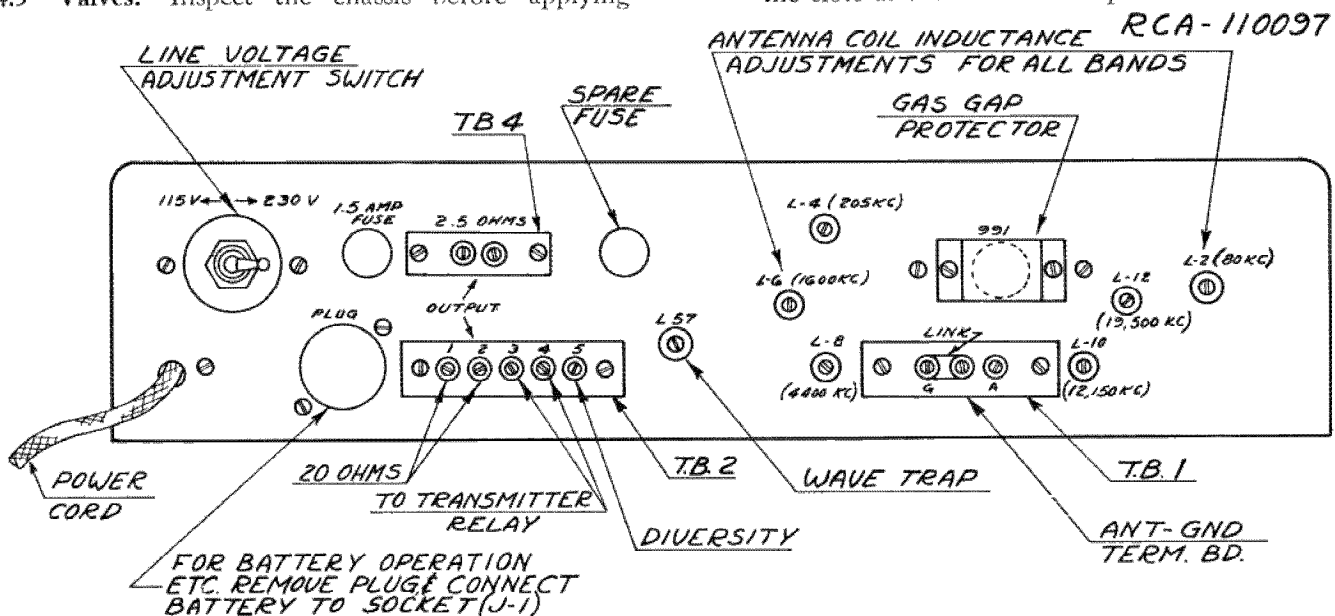

Figure 3.—General Purpose Communications Receiver—Rear Apron
- 2.2 **Input Coupling:—**The antenna coupling system is designed to provide optimum coupling from a 200 ohm transmission line; but equivalent performance is realized with a straight line antenna (see Section 4.4) with a conventional lead-in wire. The first tuned circuit is provided with a trimmer condenser adjustable from the front panel. This insures the proper tuning of this circuit with any antenna system. For all bands, conventional antenna and ground connections may also be used. The antenna terminal board is provided with three terminals (see Figures 3 and 7), two of which may be joined together with a link. When a single wire antenna is used, the link should be closed and the antenna connected to "A". If a ground is used, it should be connected to "G".
- 4.5 **Speaker**—Terminals for connection of a loudspeaker are indicated in Figures 3 and 7. The output transformer is designed to match a p.m. dynamic speaker having 2.5 ohms impedance.
2. Transmit position which gives energized tube filaments, open plate circuits, and shorted terminals (for transmitter relay) on the speaker terminal board on the back of the chassis. (3. & 4. on T.B.-2.). Connect relay to these two terminals for transmitter operation. (See Figure 3.)
Refer to Figure 3: Connect together the terminals, marked "Diversity" of the receivers, and equip each receiver with a separate antenna. Tune each receiver to the same station as explained in Section 5.12 above.